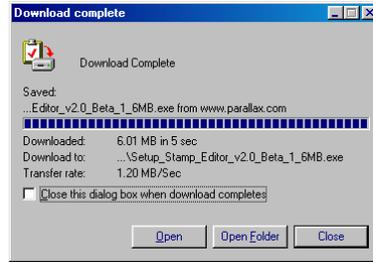

Figure 1-16
- ✓ If you downloaded the BASIC Stamp Editor Installer from the Internet, click the *Open Folder* button on the Download Complete window shown in Figure 1-16.